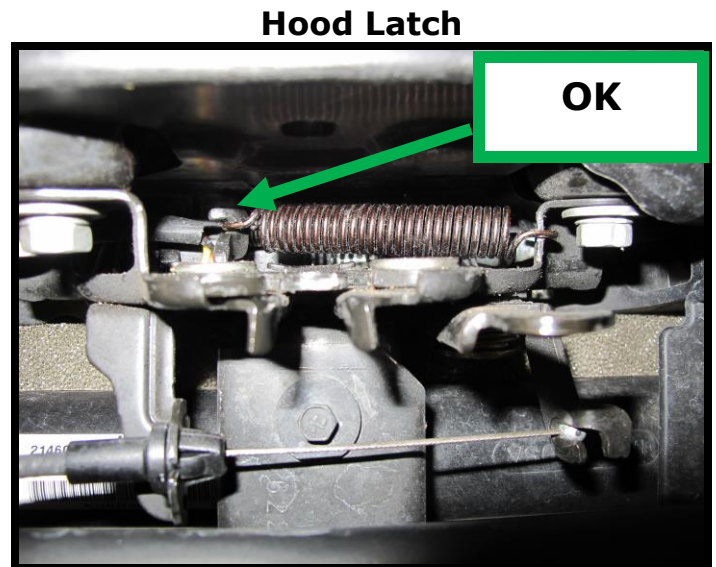

Figure 2
- **If the hood latch spring is in the proper position, shown in Figure 2, continue to step 3.**
- **If the spring is still in place (Figure 2) the inspection is complete.**